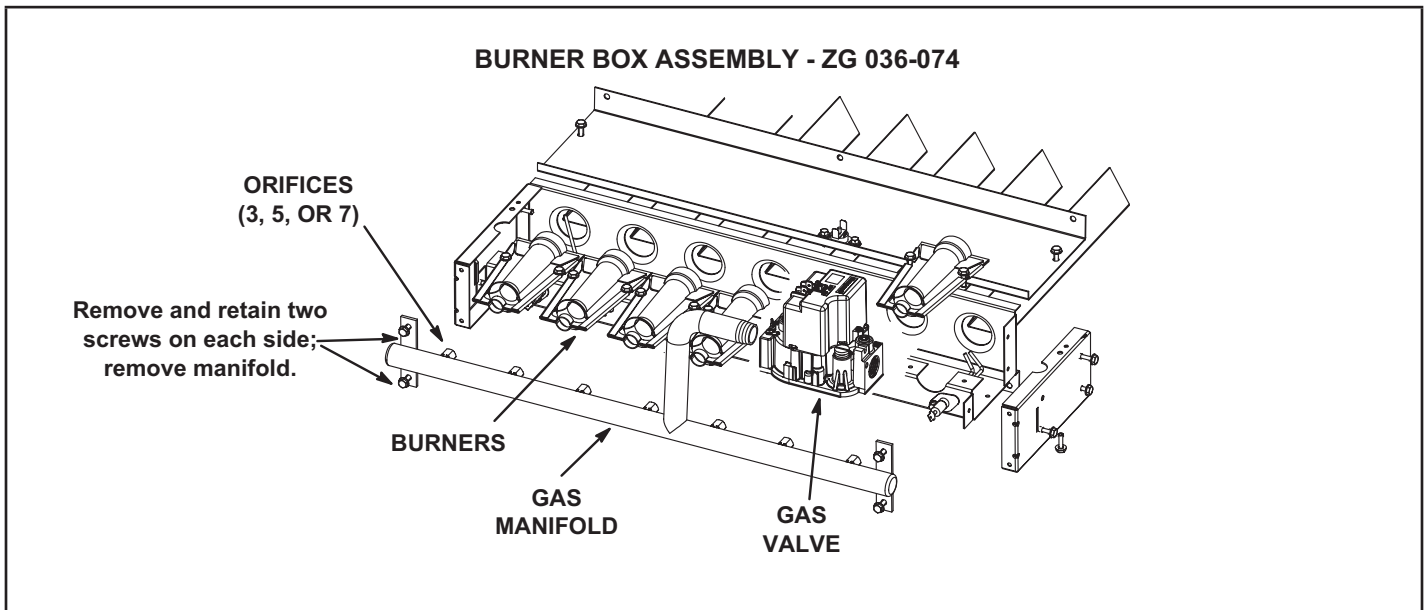

Figure 2
- 3 - Remove and retain four screws securing manifold to burner box; remove manifold. See figure 2, 3, 4, or 5.